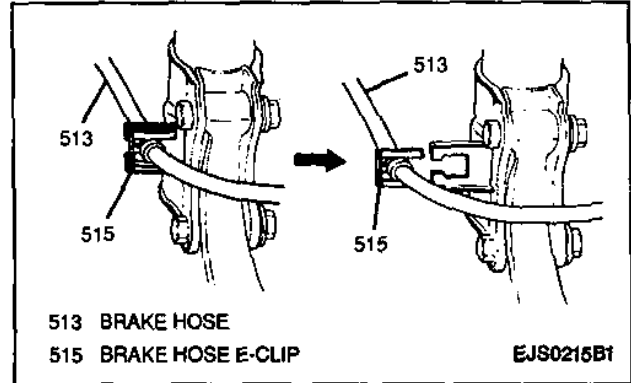

Figure 7—Brake Hose E-Clip
5. Brake hose E-clip (Figure 7).